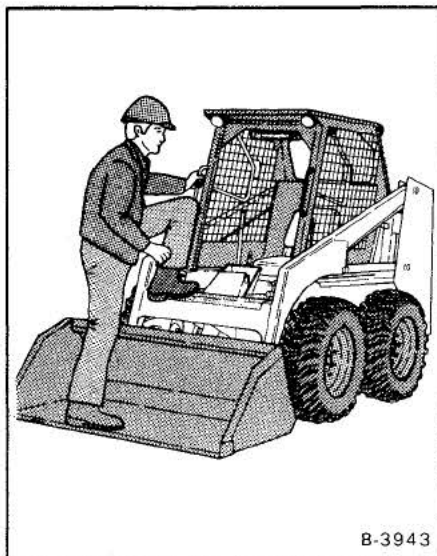

Fig. 1 Safety Treads & Using Grab Handles
1. Use the safety treads and grab handles when you get on or off the loader (Fig. 1).